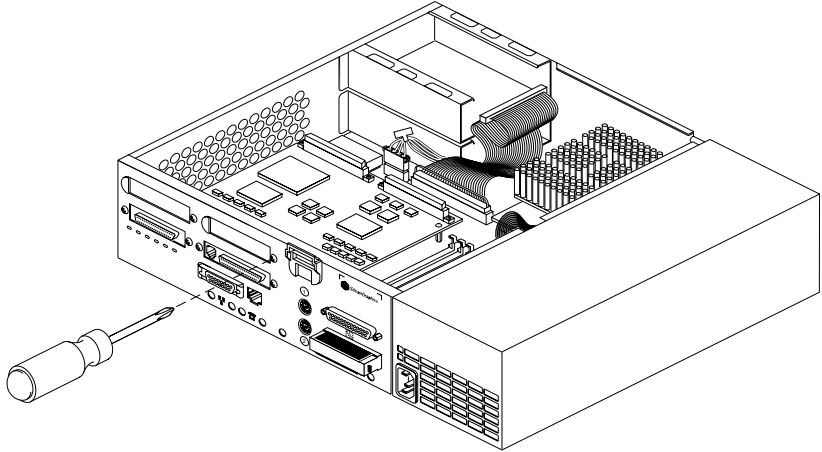

Figure 5-2 Removing the Screw From the GIO I/O Port Face Plate
6. Using a Phillips screwdriver, remove the screw from the face plate on the rear of the server that covers the GIO option port where you are installing the board, as shown in Figure 5-2. Save the face plate in case you remove and do not replace the board in the future.